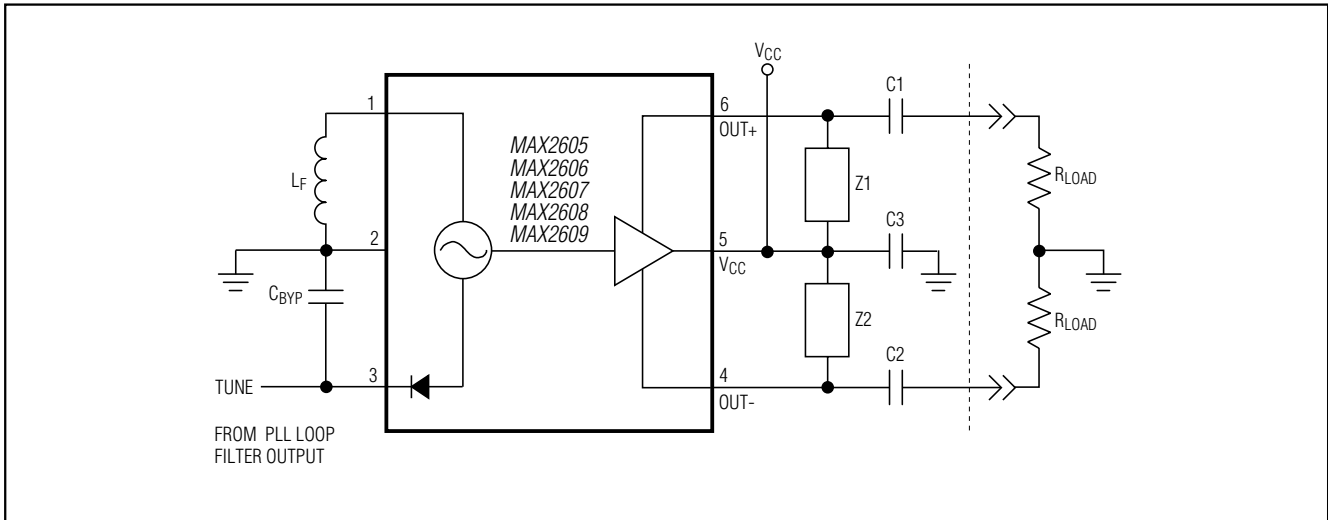

Figure 6. Typical Operating Circuit
**Note 4:** Application range of the part is achieved using external inductance as specified in Figures 1-5 and shown in Figure 6. The internal varactors support center frequencies of 45MHz to 650MHz. The center frequency is defined by the value of the external inductor element,  $L_F$ . The application frequency limits are guaranteed by design and characterization.
**Note 8:** The phase-noise specifications listed apply to the typical operating circuit shown in Figure 6. Apply over the entire operating frequency range of the MAX2605–MAX2609.
In Figure 6, Z1 and Z2 are 1kΩ pull-up resistors that are connected from OUT+ and OUT- to VCC, respectively. These resistors provide DC bias for the output amplifier and are the maximum value permitted with compliance to the output voltage swing limits. In addition, the 1kΩ resistors maximize the swing at the load. DC-blocking capacitors are connected from OUT- and OUT+ to the load. If the load driven is primarily resistive and the VCO operating frequency is below the -3dB bandwidth of the output network, then the peak-to-peak differential signal amplitude is approximately:
To optimize the output voltage swing or the output power, use a reactive power match. The matching network is a simple shunt-inductor series-capacitor circuit, as shown in Figure 6. The inductors are connected